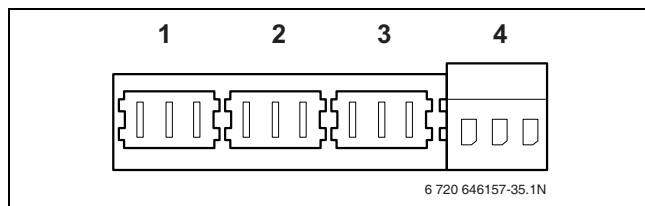

Fig. 39 120 VAC Connections
- Connect the external heating or system pump (for situations where the pump of the Buderus pump group is not used) to the green PK terminal (→ fig. 39). The maximum allowed connected load of the pump = 100 Watts.
- Connect the DHW pump to the grey PS terminal (→ fig. 39). The maximum allowed connected load of the pump = 100 Watts.
- Connect the DHW circulation pump to the lilac PZ terminal (→ fig. 39). The maximum allowed connected load of the pump = 100 Watts.